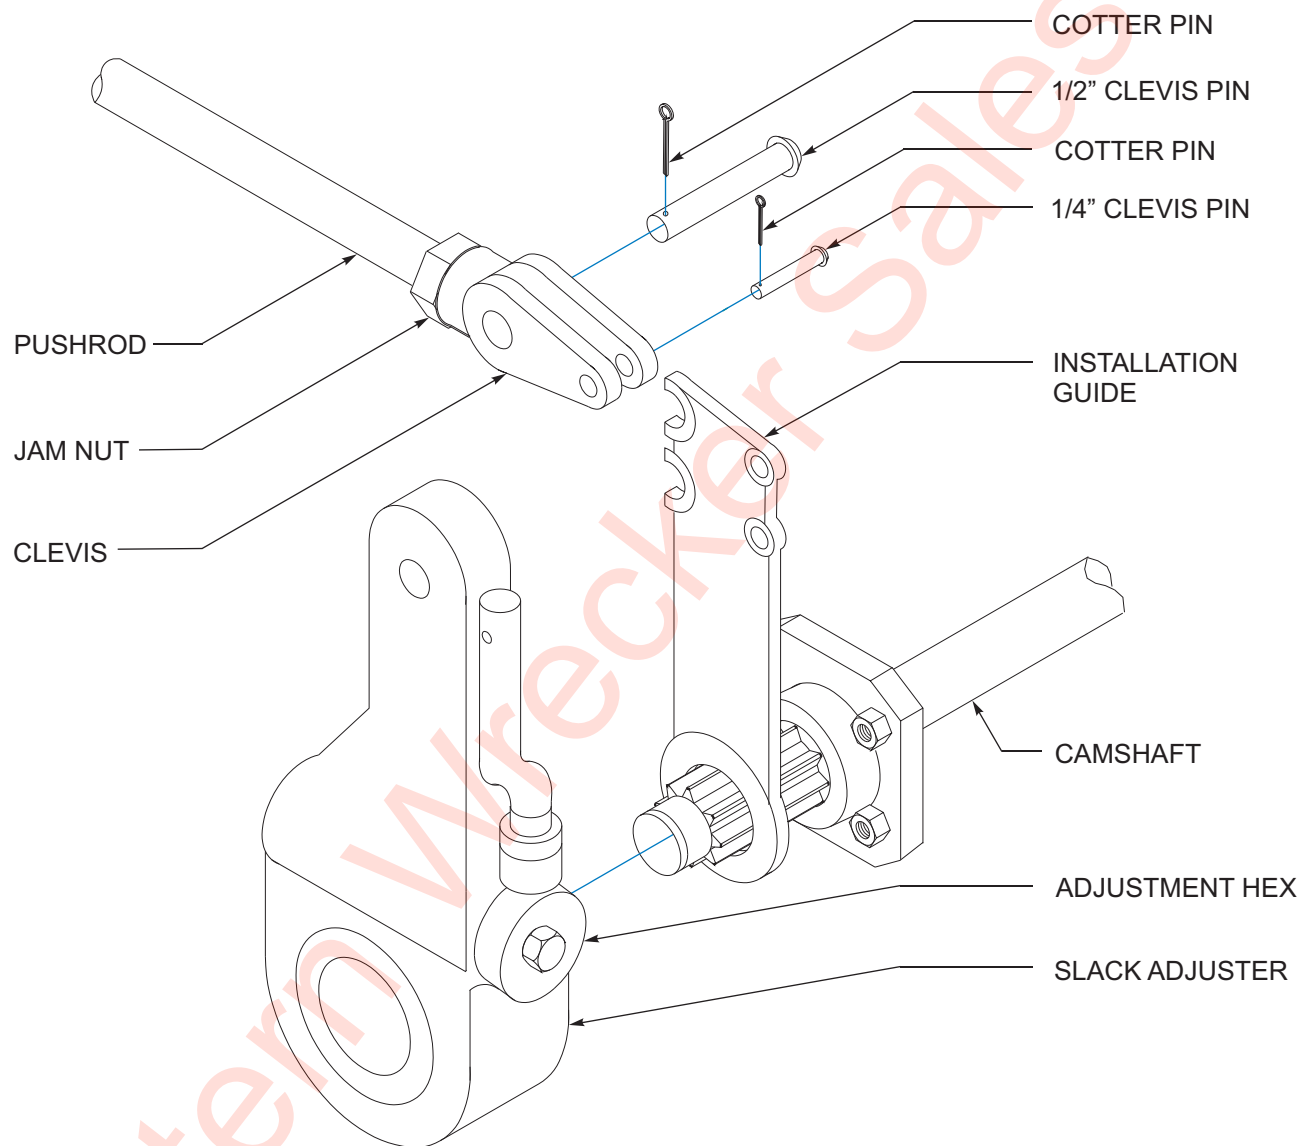

Figure 5-18: Slack Adjuster
1. Release brakes and back off slack adjuster. *See Figure 5-18*
4. Disconnect the slack adjuster from the connecting rod by removing the clevis pin. See Figure 5-18.